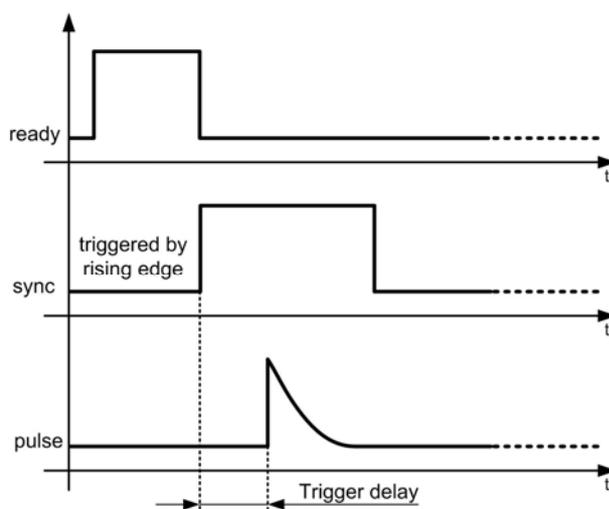
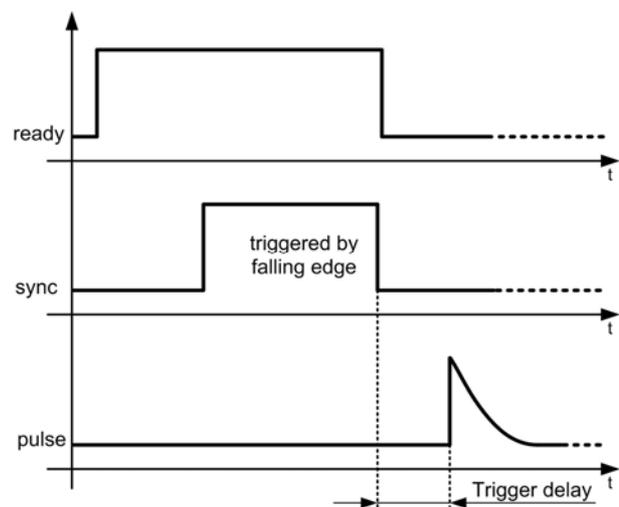

Figure 12: Signal sequence of external trigger mode, trigger on rising edge
Figure 13: Signal sequence of external trigger mode, trigger on falling edge
The ready TTL output of the **BPS 202** signals when the **BPS 202** is ready to start a pulse. The control signals can be found on Figure 12 and Figure 13.
Figure 12 and Figure 13 show the sequence of control signals when the external trigger mode is used.
- c) the pulse is emitted on a rising or falling edge at the *sync TTL* input (Figure 13). This depends on the settings in the **BPS 202-Client** software (see *Chapter 6.7*).